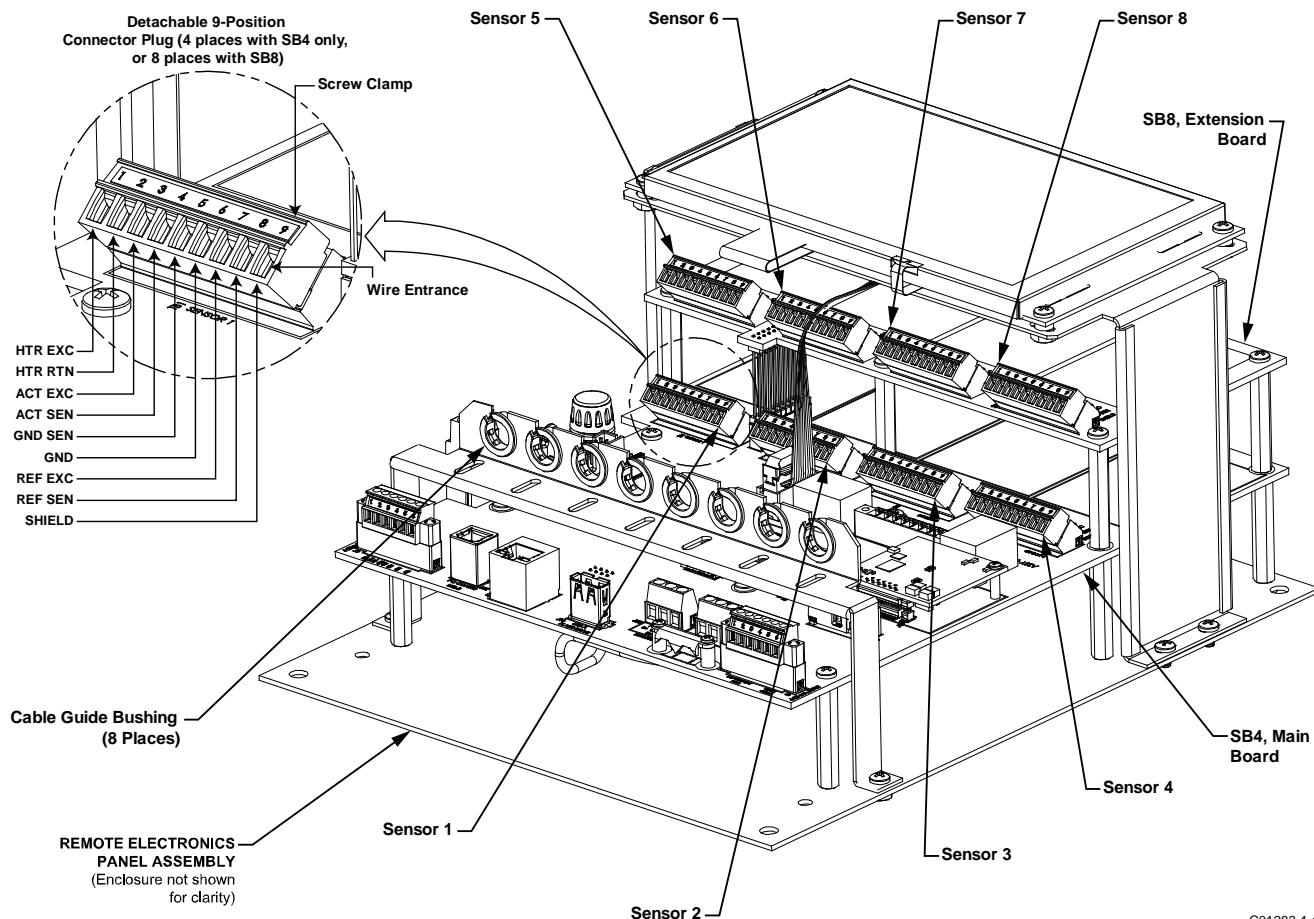

Figure 22 – Flow Element Connections
As shown in Figure 22 below the MT100 flow element sensors connect to detachable 9-position connector plugs (8 total) on the SB4 main board and the optional SB8 extension board (on standoffs). The connector plug accepts 28-16 AWG (0.14 mm²-1.5 mm²) wire (refer to Table 2, page 23 for wire size vs. length info). Connect a flow element sensor to the appropriate plug as follows:
3. Strip wire ends (0.27 in [7 mm]) and connect to appropriate connector terminals as shown in Figure 22.